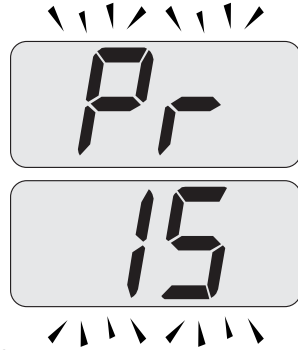

Fig. 7.19
- Scroll the various parameters using keys 10 or 11 until the letters **Pr** that alternate with code **15** are displayed on the LCD display, indicating that "parameter 15"(Fig. 7.19) has been activated.
- Press keys 9 and 10 (Fig. 7.17) at the same time to exit without changing the value (return to the parameters list Fig. 7.19)